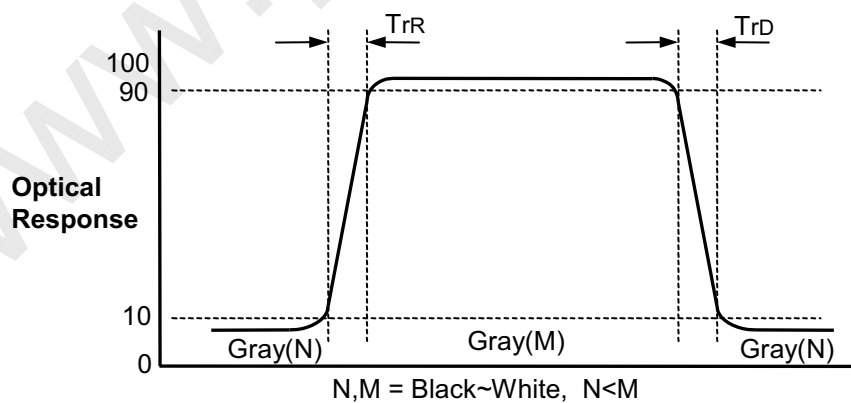

FIG.3 Response Time(G to G)
- Response time is the time required for the display to transit from G(N) to G(M) (Rise Time, Tr_R) and from G(M) to G(N) (Decay Time, Tr_D). For additional information see the FIG. 3. (N<M)